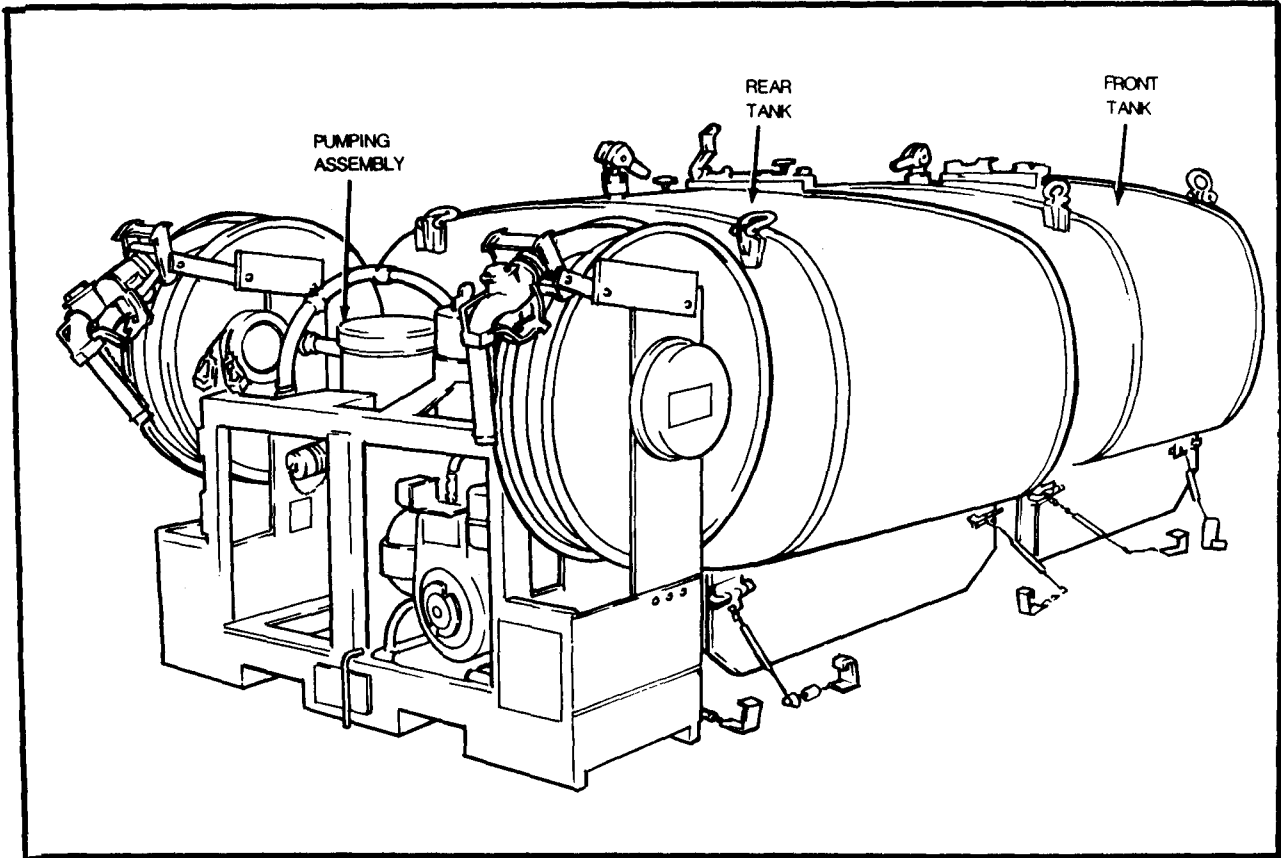

Figure 1-1. Tank and Pump Unit.
a. **General.** The tank and pump unit (figures 1-1 and 1-2) consists of a 50 gpm (189 liters per minute) pumping assembly, two 600-gallon (2271-liter) tanks and related items. It is designed for use with 5-ton Cargo Trucks such as M-54, M-55, M813A1, M814, M923, M924, M925 and M926. When installed in a cargo truck, the tank and pump unit is used in the field as a bulk carrier and dispenser. It carries 1200 gallons (4542 liters). The purpose of the tank and pump unit is to convert a general purpose military cargo vehicle into the bulk refueler. The maintenance paragraphs contain detailed descriptions of its components. (NOTE: Electric Motor Driven Pump requires Slave Receptacle mounted at right rear side of cab).